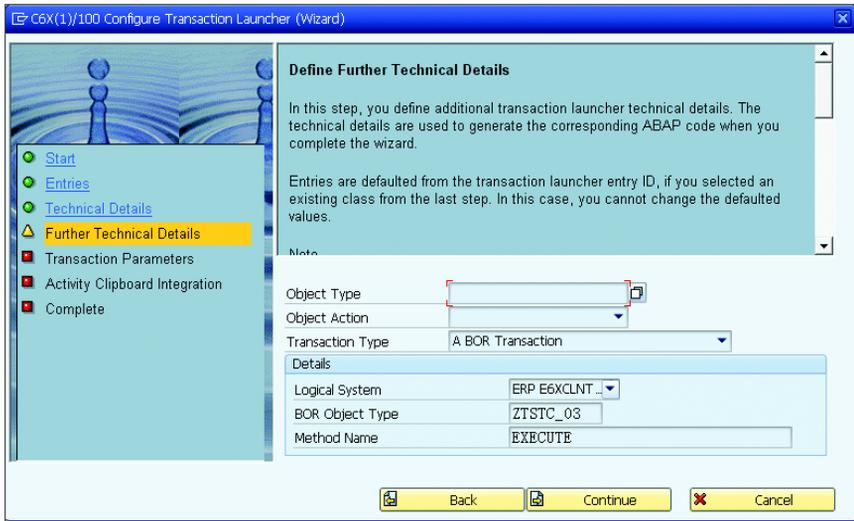

Figure 8.49 Defining Further Technical Details
4. Define the type of transaction launcher you want to use: BOR or URL. For this example, use the BOR transaction launcher. Enter the LOGICAL SYSTEM of the transaction that you want to launch. Because we want to launch an SAP ERP transaction, the LOGICAL SYSTEM is ERP, and the BOR OBJECT TYPE is ZTSTC_03, which is a copy of the standard business object type TSTC. As shown in Figure 8.49, the METHOD NAME is EXECUTE. Click CONTINUE.